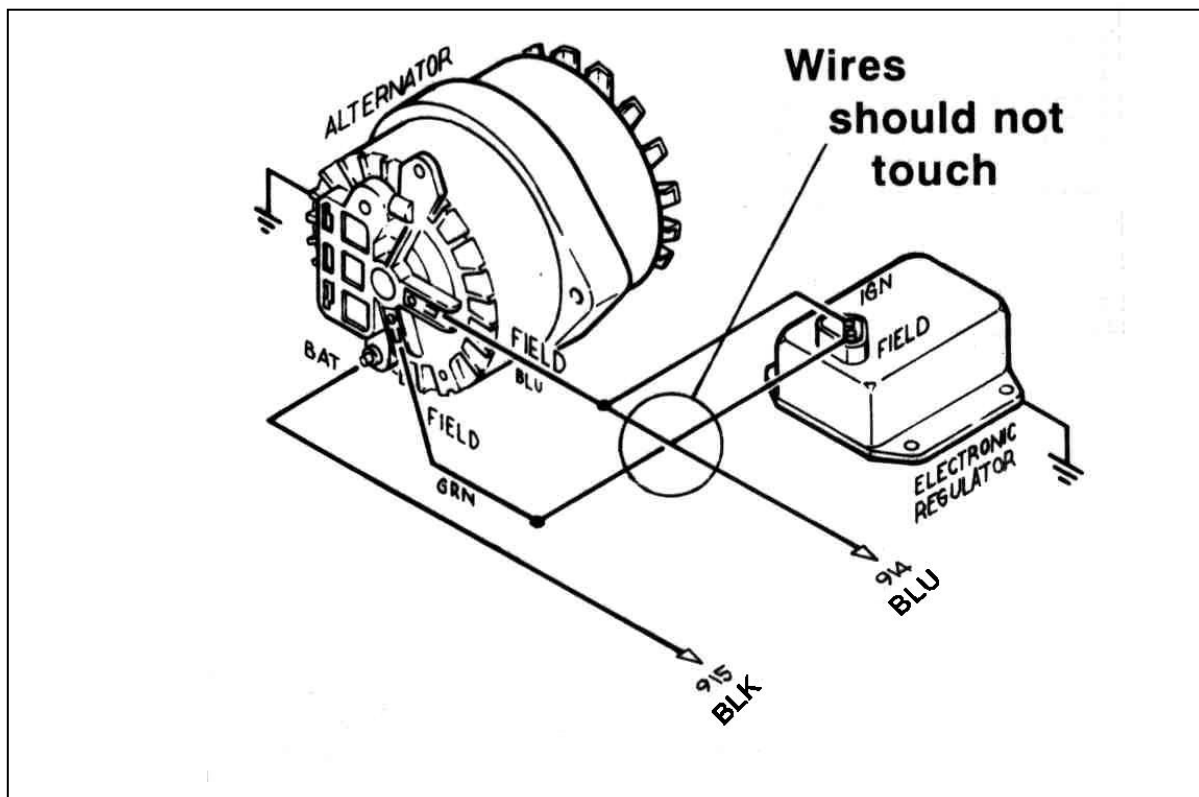

Figure 7-1A Mopar Alternator
- 7.1.1** Mopar uses one of two kinds of voltage regulators: An electronic regulator and a mechanical one. The electronic voltage regulator is represented in **Figure 7-1A**. It does not matter how the two terminals are connected, so long as they are BOTH connected. The mechanical regulator has terminals marked "F" (Field) and "I" (Ignition). In contrast to the electronic regulator, it DOES make a difference how the mechanical regulator is connected.
- 7.1.2** Connect ENGINE SECTION wire #914 (BLU) to the Alternator Field (F) terminal as shown in **Figure 7-1A**. Connect ENGINE SECTION wire #915 (BLK) to the Alternator Output lug (Bat).